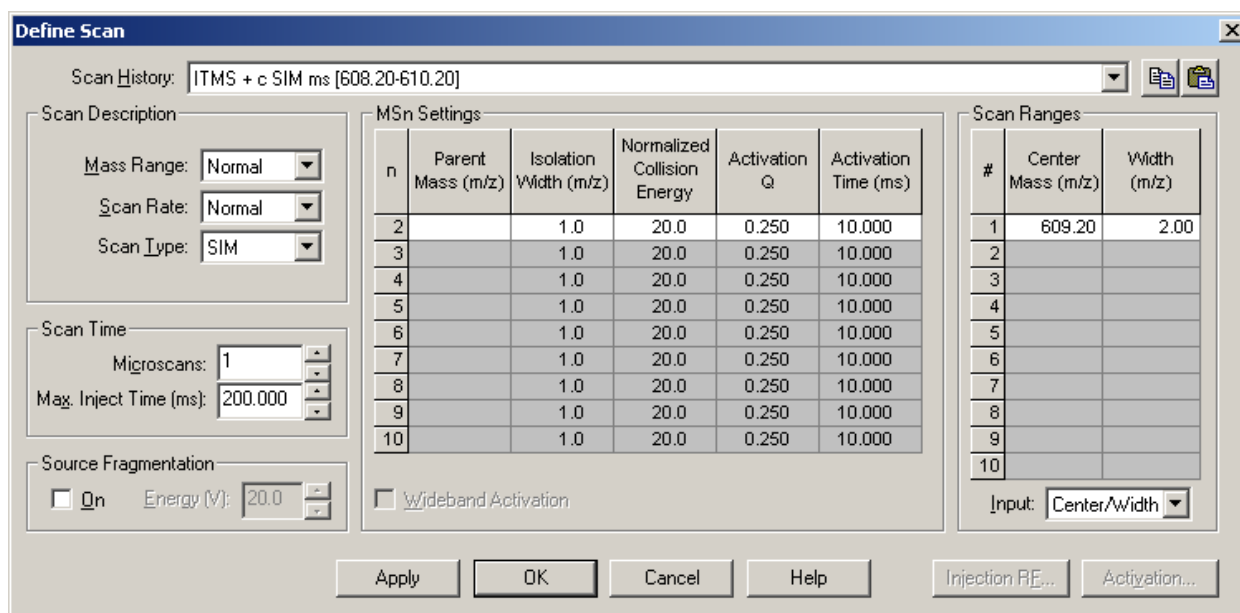

Figure 5-9. Define Scan dialog box, showing typical settings for acquiring reserpine data in the SIM scan type
- a. Click on the Define Scan button to open the Define Scan dialog box. See Figure 5-9.
- b. Compare the values in your dialog box to those in Figure 5-9. Then, click on **OK**.